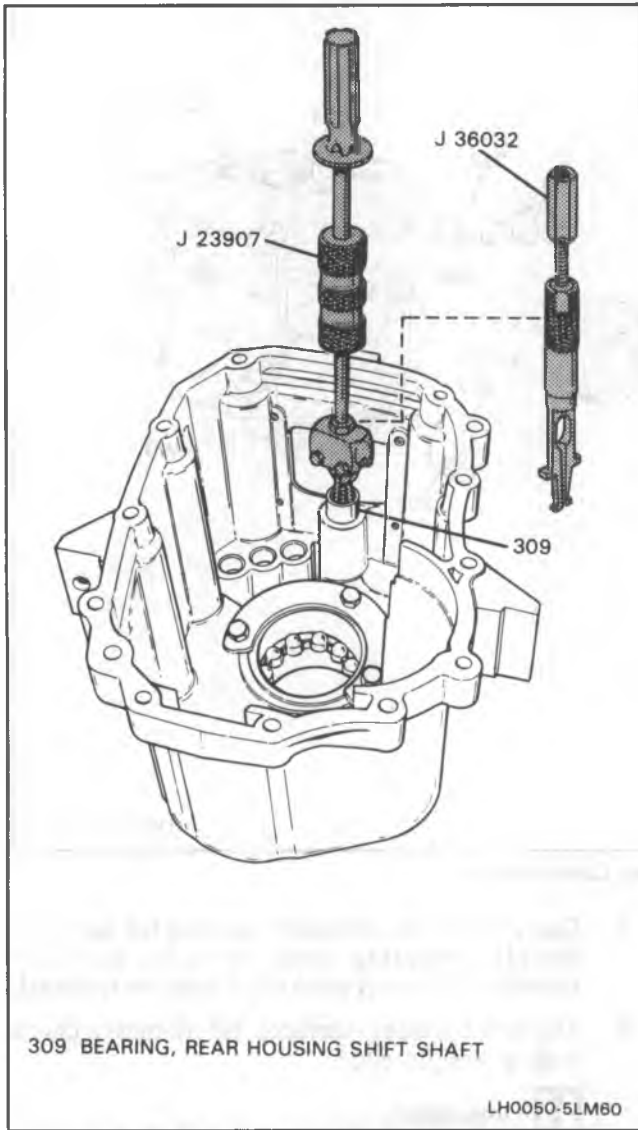
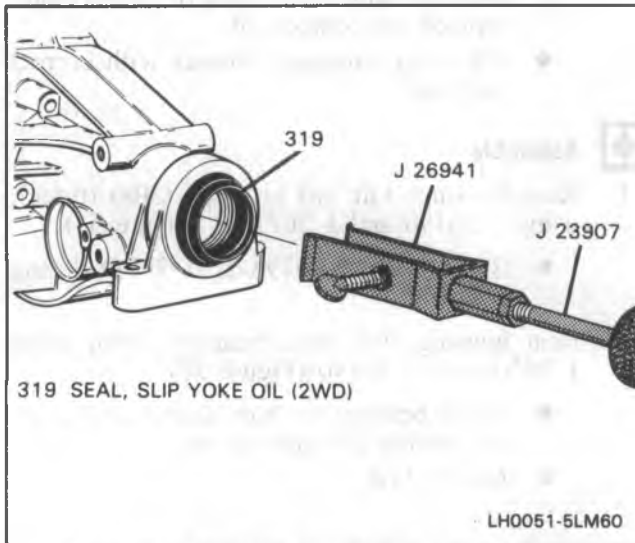

Figure 49 Removing Shift Shaft Bearing
Figure 50 Removing 2WD Slip Yoke Oil Seal
2. Rear housing shift shaft bearing (309), using J 23907 with pilot bearing puller or J 36032 (Figure 49).
3. Three bolts (306), output shaft bearing retainer (303) (4WD), bearing assembly (33), using brass drift.
4. Slip yoke oil seal (319), using J 26941 and J 23907 (Figure 50).
5. Plug (322).